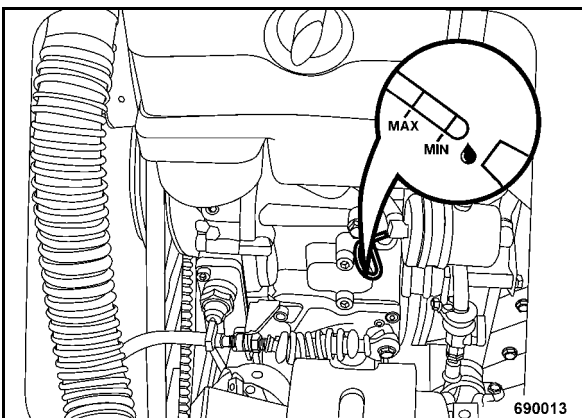

Fig. 61
- After a short test run check the oil level on the dipstick (Fig. 61), correct the oil level as necessary.